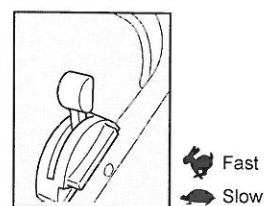

Figure 4
- Move the throttle control to the "Fast" position (Figure 4).